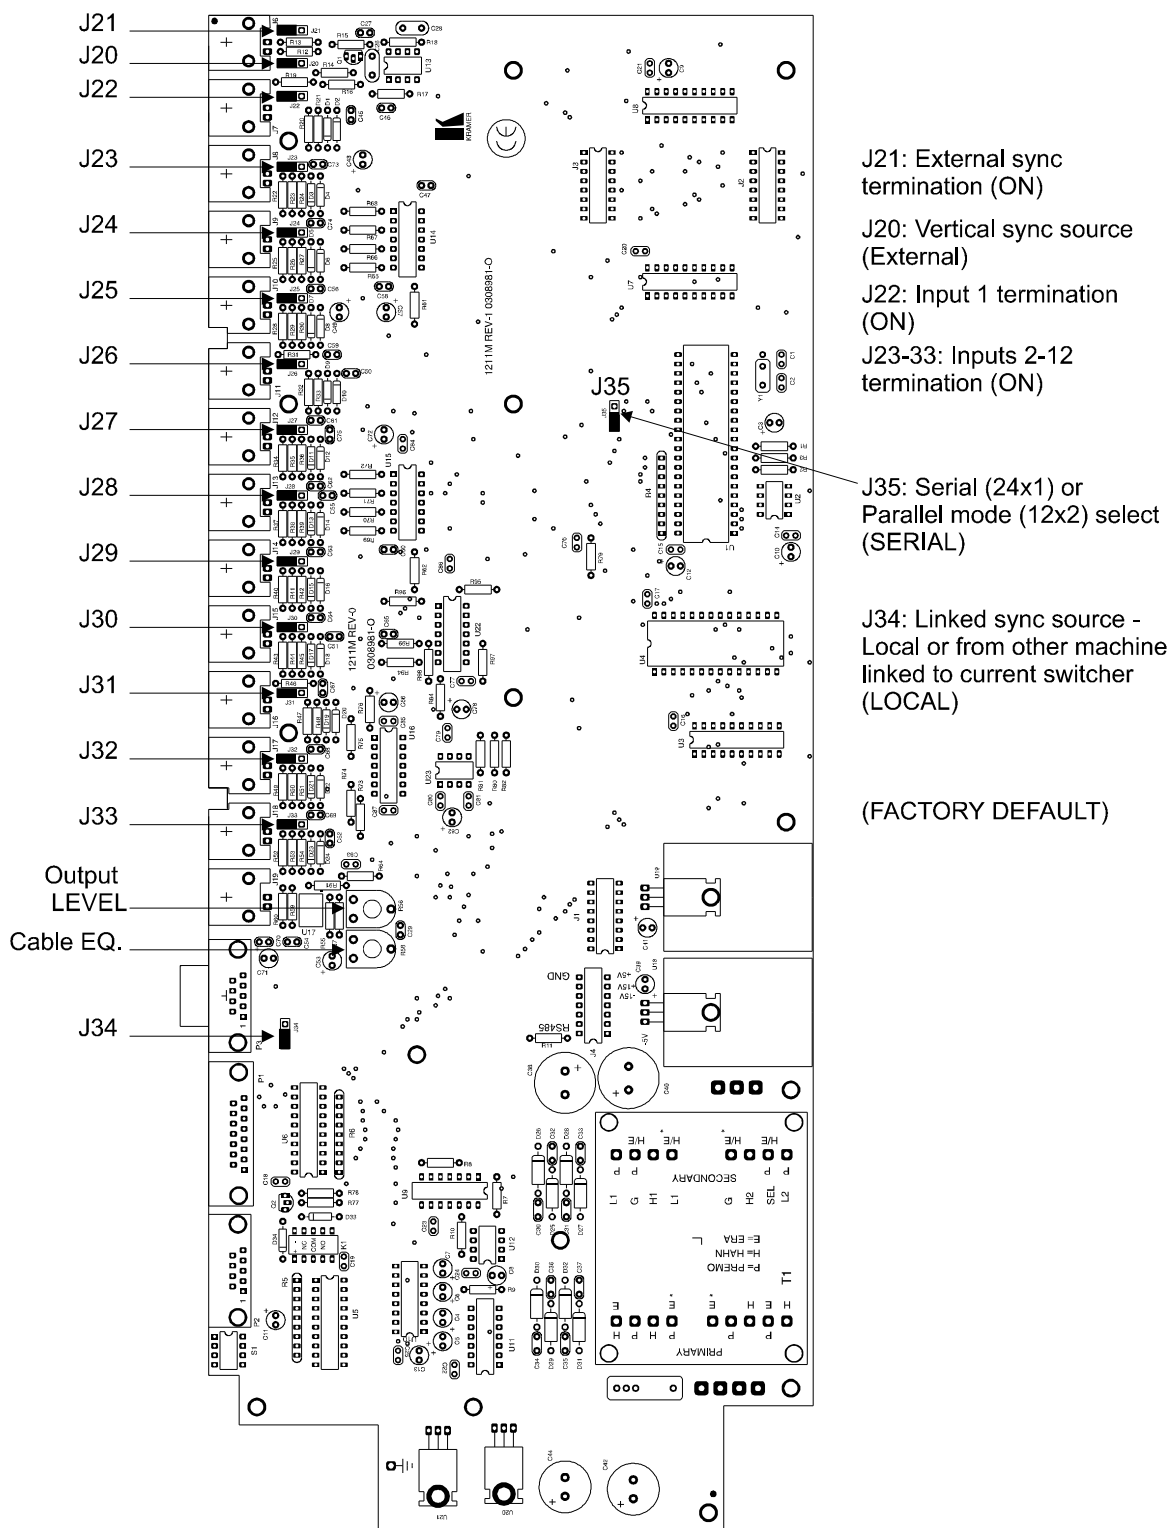

Figure 3 : Location of Internal Jumpers
The jumper locations are illustrated in Figure 3, and their functional operation is described below:
1. Make sure that jumper J35 in at least one of the switchers is in its factory located position (See Figure 3). If necessary, carefully remove the covers of the switchers to do so.